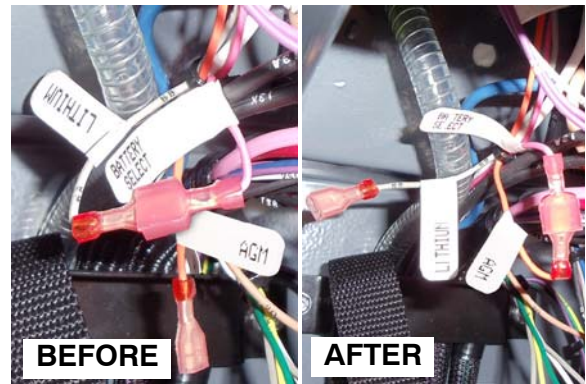

Fig. 9
- Within the machine's wiring, directly below the charger plug connector, disconnect the gray/68 wire labeled "LITHIUM" from the pink/41C wire labeled "BATTERY SELECT" then connect the orange/63 wire labeled "AGM" in its place (Figure 9).